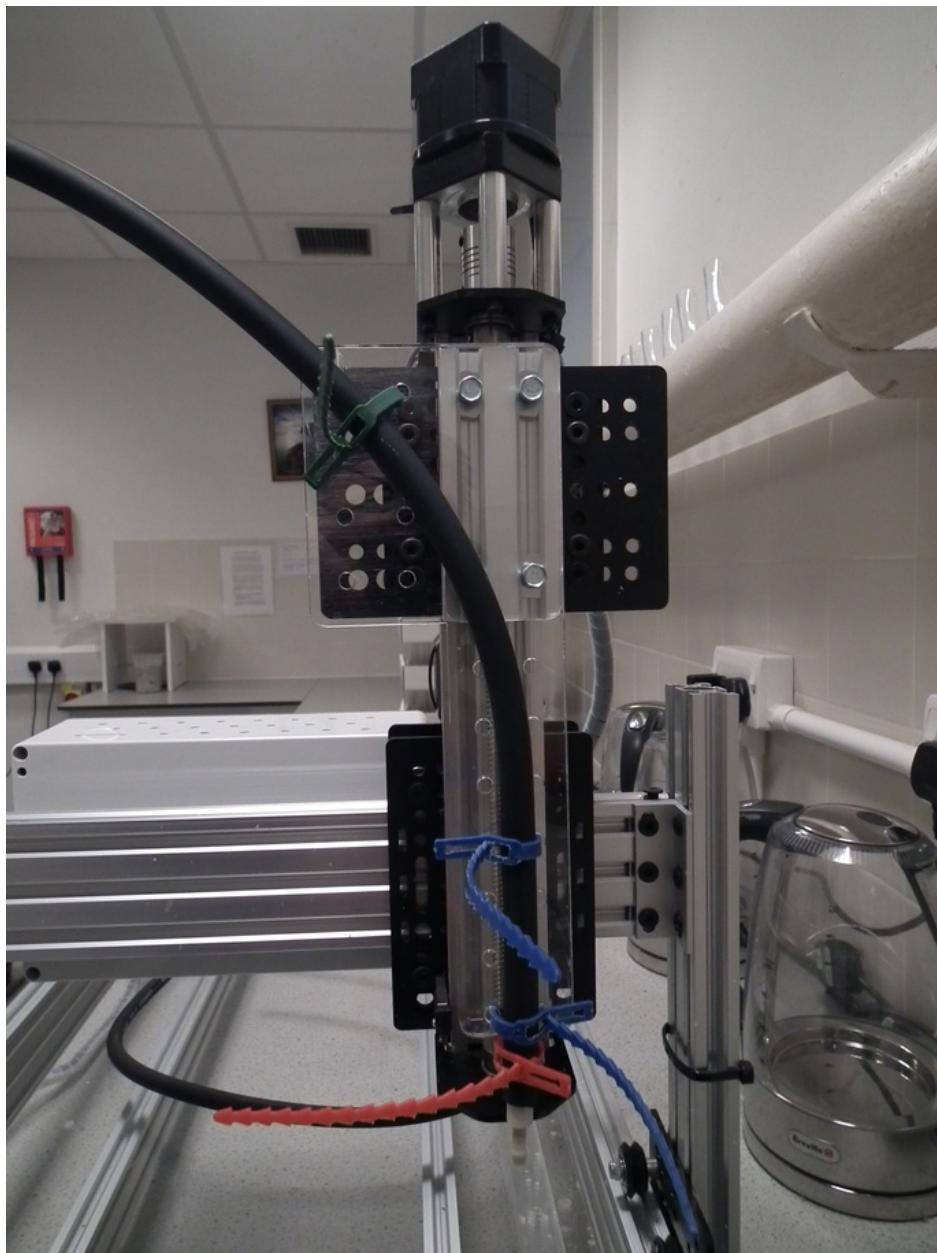

Figure 4.1: Attachment of nozzle end of tubing to the Z-axis actuator.
1. Attach the nozzle end of the Norprene tubing to the holder on the Z-axis actuator using releasable cable ties (figure 4.1).